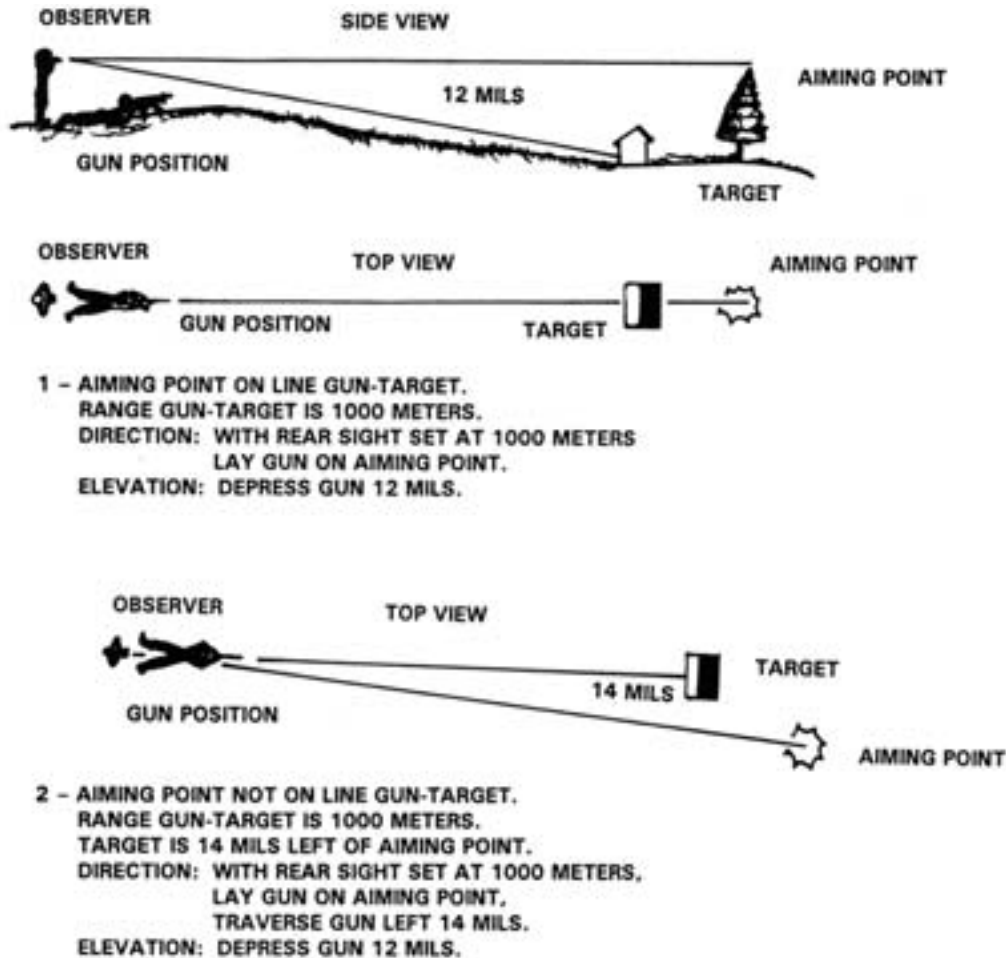

Figure 6-42. Aiming Point Method.
b. Use of an Aiming Point. A prominent landmark visible to the gunner through his sights is selected as an aiming point (see figure 6-42). An aiming point on the gun-target line and at an equal or greater range than the target is desirable; however, an aiming point on the mask can be used.